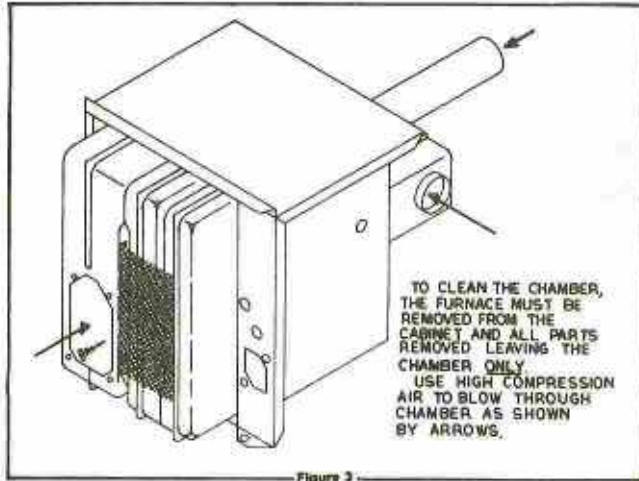

Figure 3
1. Inspect combustion chamber for restrictions in exhaust or intake. It is imperative that the flow of intake combustion air and the flow of exhaust gases being expelled to the outside atmosphere not be obstructed. Any soot or loose debris should be blown out using high compression air. (See Figure 3.)